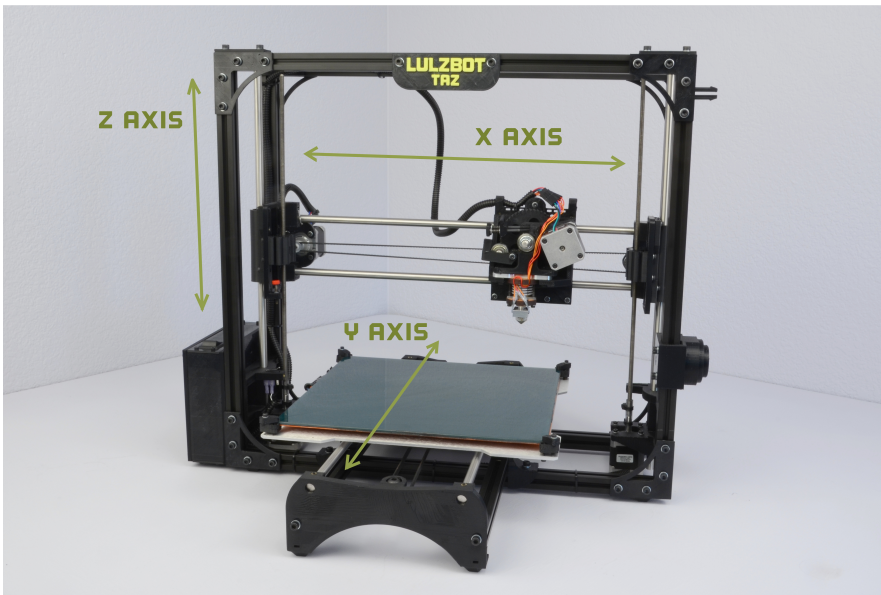
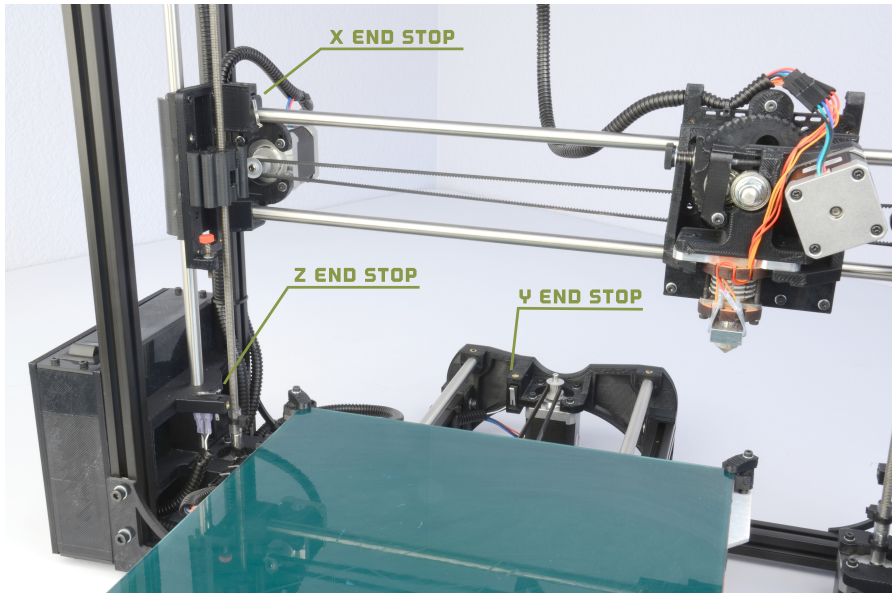

Figure 1.15: Axes movement directions
Figure 1.16: End stop locations
13. Your TAZ 3D printer is now setup and ready to start printing. Before moving forward you should become familiar with the TAZ Cartesian type system. The printer moves in three axes: X, Y, and Z (Fig. 1.15, page 24). These three axes allow the tool head to move to any point within the print area. Note the location of the mechanical end stops which are small switches located at the home point of each axis (Fig. 1.16, page 25). Each end stop switch allows the printer to find the 0, the origin, or starting point, of each axis. The mechanical end stops should never be blocked during the initial homing function or during a print.